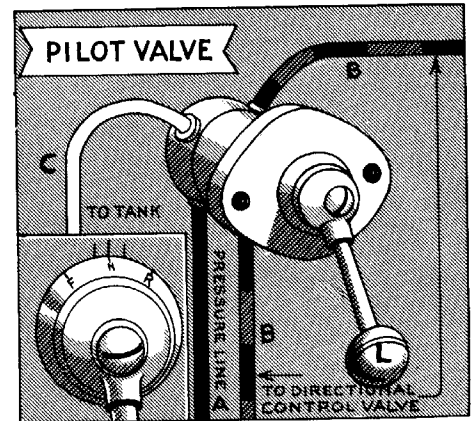

FIG. 53
The pilot valve (Fig. 53) is located under the ram. It is actually a small valve used to actuate the larger reverse valve which controls the movement of the ram. Although it may be operated manually by shifting lever (L) whenever the ram travel must be reversed quickly, it is usually operated mechanically by the two trip dogs on the ram. These govern both the length of the stroke and its position relative to the work.
The pilot valve (Fig. 53) exercises its control over the reverse valve by means of four small pipes which connect it with the hydraulic system. One leads to the high-pressure line (A), one each to the right and left ends (B) of the reverse valve to permit dropping the pressure on one side or the other of its piston, and one (C) to the reservoir to carry off the small amount of oil released from the reverse valve.